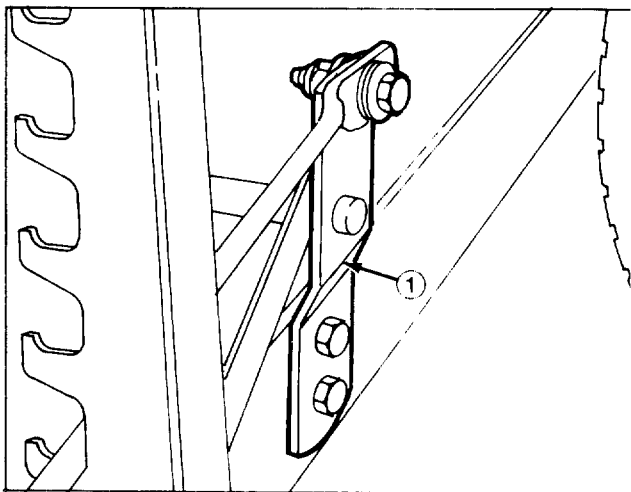

Figure 29
4. If blade tip height is not within 1/8 inch (3 mm), level cutting unit by loosening height-of-cut support bracket capscrews and raising or lowering the bracket (Fig. 29).